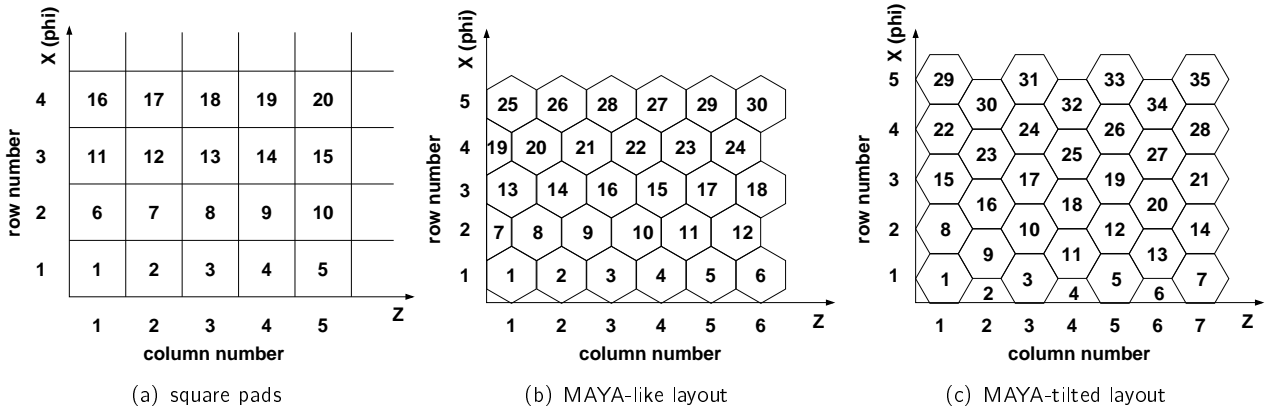

Figure 1: Pad types and layout patterns in the simulation code.
a) square pads: pads are ordered in rows and columns from 1 up to the parameters *numberOfRows* and *numberOfColumns*. An example with 5 columns and 4 rows is shown in Fig.1-(a). In the *thePadsGeometry.SetGeometryValues* function, the *padType* for square pad is 0.
b) hexagonal pads: pads are ordered in rows and columns from 1 up to the parameters *numberOfRows* and *numberOfColumns*. There are two kinds of pad layouts for hexagonal pads: the MAYA-like (Fig.1-(b), *padType*==1 and *padLayout*==0) and the MAYA-tilted layout (Fig.1-(c), *padType*==1 and *padLayout*==1).